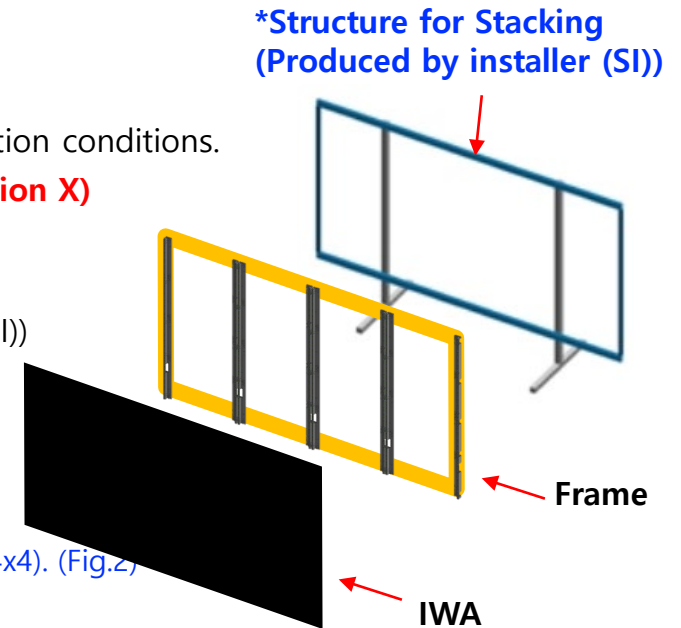

Fig.1 Concept of Stacking
1. Stacking is installed in general structures except for wall hangers. (Fig.1)